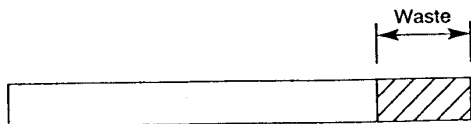

Fig. 27
5. Taking the air duct, mark dimension 'X' as shown (Fig. 27). Measure the length of waste material, and transfer the dimension to the flue duct (Fig. 27).